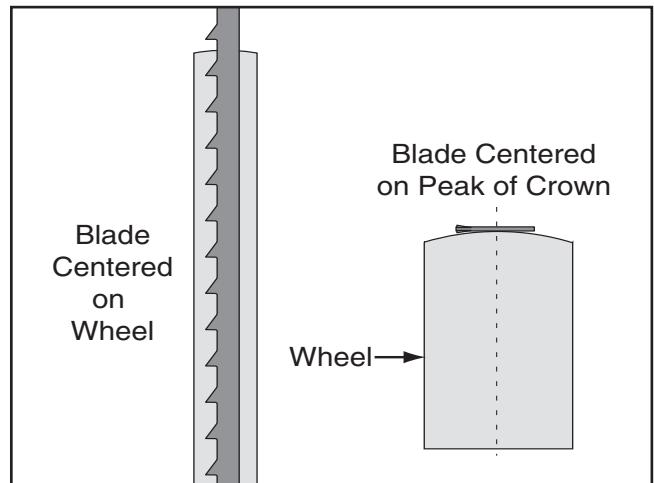

Figure 23. Center tracking profiles.
5. Spin the upper wheel by hand at least three times and watch how the blade rides on the crown of the wheel. Refer to **Figure 23** for an illustration of this concept.